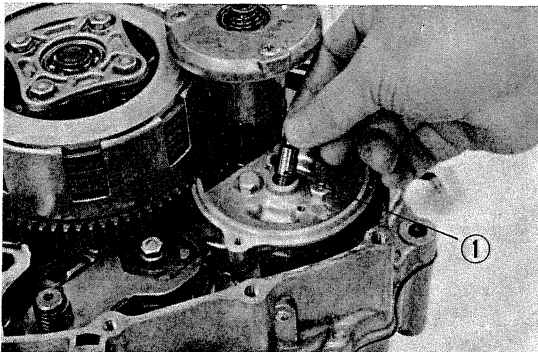

Fig. 62 ① Oil pump shaft
- 3) Align oil pump shaft to the cutout on the inner rotor gear and then assemble. (Fig. 62) (CB125S, CD125S, SL125)